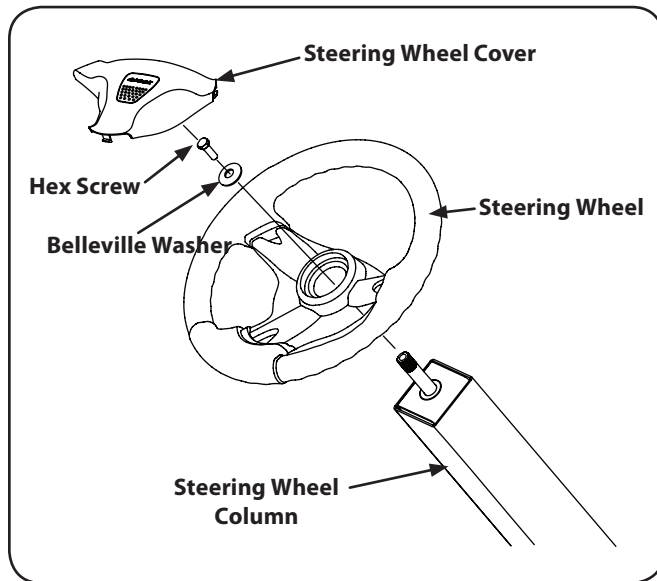

Figure 3-3
3. Place the flat washer and belleville washer over the steering wheel and secure with the hex screw. See Figure 3-3.